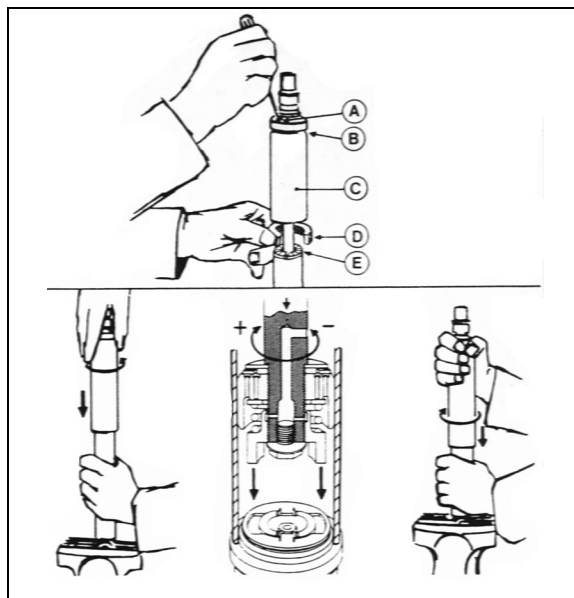

FIGURE 23: DAMPER
To adjust opening and closing cycle speed on damper (Fig. 23):
2. Fully close the damper while turning the dust cap or piston rod slowly CCW until it is felt that the cams of the adjusting nut engage in the recesses of the foot valve assembly (Fig. 23).
In figure 23, if there is an indentation (B) in the dust cap (C) and the cover shows two holes (A), the damper is fitted with a bump rubber (D). If so, fully extend the damper and insert a round bar or screwdriver through the holes. Push the bump rubber down and remove. Remove the split plastic collar (E) (if fitted) from the piston rod.
Where a bump rubber was installed, refit same inside the dust cap and by fully closing the damper, the rubber will seat again at top of the dust cap. Refit the split plastic collar E (Fig. 23).